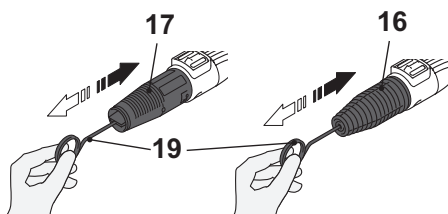

Fig. 24
Remove any dirt deposits from the nozzle (16/17) hole using the cleaning needle (19) (Fig. 24).